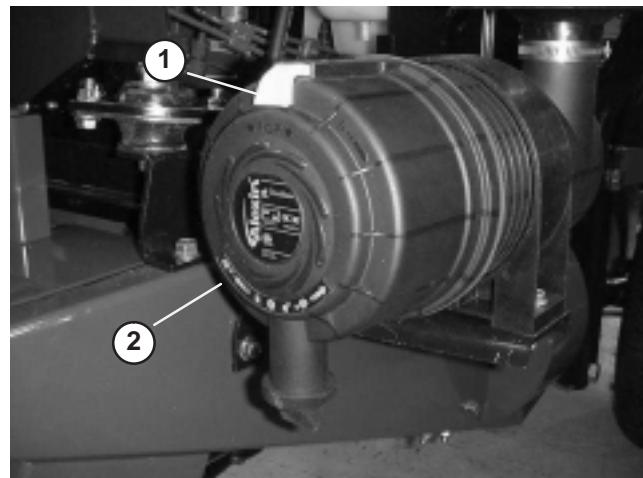

Figure 44
1. Pull latch outward and rotate air cleaner cover counter-clockwise. Remove cover from body (Fig. 44). Clean inside of air cleaner cover.